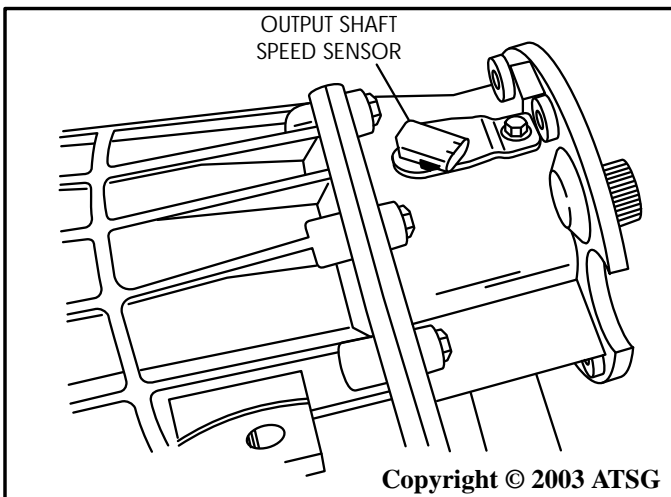

Figure 201
5. Install output shaft speed sensor, if equipped, as shown in Figure 201, and torque the bolt to, 8-10 N·m (71-81 in.lb.)